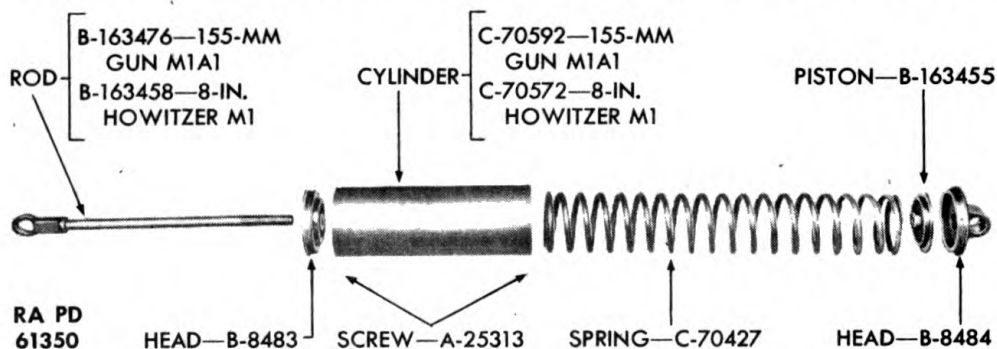

Figure 80—Counterbalance—Exploded View
(7) The counterbalance assembly is now completely disassembled (fig. 80).